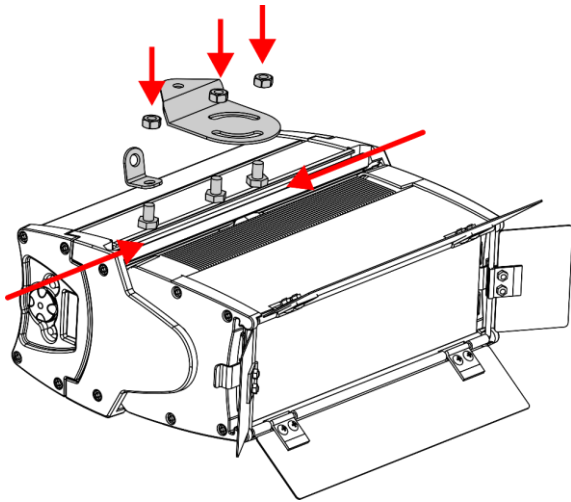

Fig. 09
- 01) Slide the 3 mounting screws in the **mounting groove (03)**, as shown in Fig. 09.
- 02) Place the mounting bracket and the safety bracket on the mounting screws, so that the mounting screws fit into the respective openings, as shown in Fig. 09.